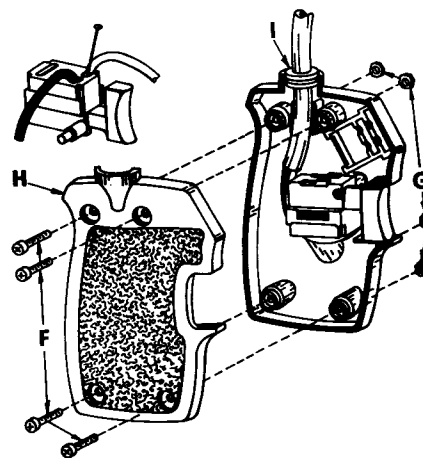

Fig. 5
1. Remove screws and nuts (F & G) and then remove handle cover (H). See Fig. 5.
2. Note grommet (I) and cord in handle and how each lead is connected to switch.
3. Remove leads from the switch by inserting a 1/32" diameter pin or nail into each switch lead receptacle as illustrated in Fig. 5 and pulling on the lead. Remove the pin or nail with a twisting and pulling motion.